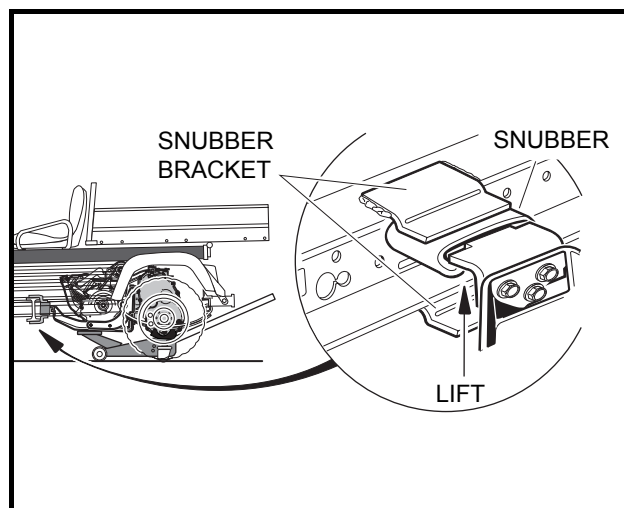

Figure 14-1 Compress Engine Snubber
- 1.8. Chock the front wheels and place a floor jack under the engine mounting plate, and raise the engine until the front bracket snubber is fully compressed. This will allow the carburetor to pass the electrical box assembly. (**Figure 14-1, Page 14-2**).
14. Install the intake pipe gasket (16) (check for proper orientation) and intake pipe (17).
15. Attach the carburetor retaining nuts (19) and tighten them to 50 in-lb (5.7 N-m).
16. Lower the floor jack from under the engine mounting plate, allowing the front bracket snubber to return to normal condition (**Figure 14-1, Page 14-2**).